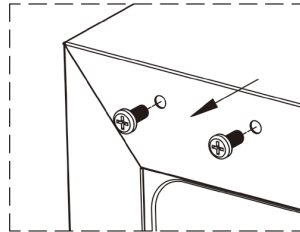

Fig.1
2. Remove the screws from the upper and lower left corners of the unit. (Fig.1)